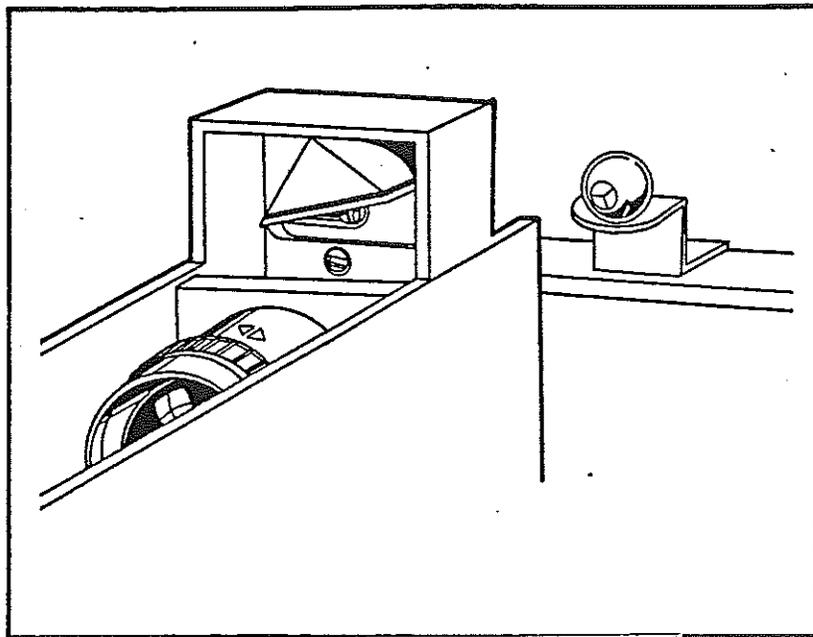

Fig. 26
- (j) Remove the white card, and substitute the artificial eye, or ball bearing (Fig. 26).